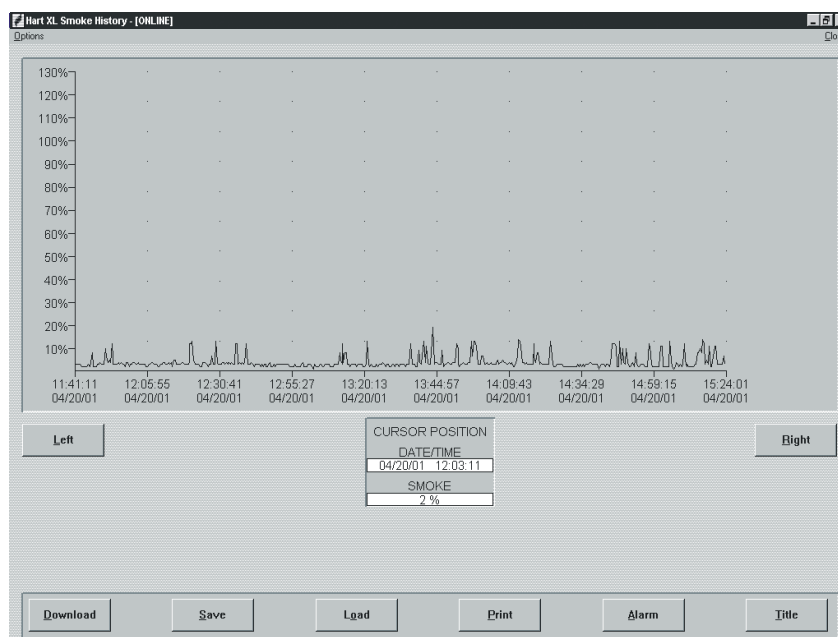

Figure 7-8. Smoke History Showing Raw Smoke Data
- The smoke history graph now displays the raw smoke level, but the vertical axis has been extended to show a range from 0% to 130%. This allows display of the raw smoke level before the reference value (a maximum of 30%) is subtracted. An example is shown in Figure 7-8.